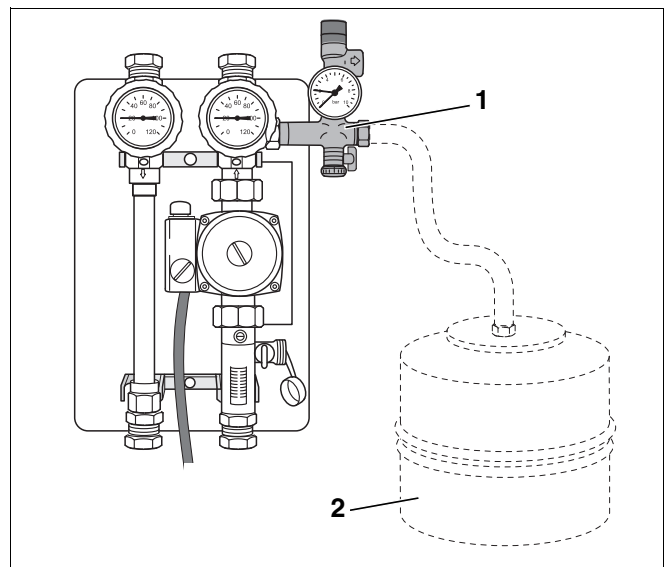

Fig. 8 Connecting the expansion vessel
A 25 litre expansion vessel (7739 300 119) (Fig. 8, **Item 2**) is available as an accessory.
- ▶ Connect the expansion vessel (Fig. 8, **Item 2**) into the return of the safety assembly (Fig. 8, **Item 1**) of the solar heating station.
- ▶ Install the expansion vessel (Fig. 8, **Item 2**) with suitable fixing material.